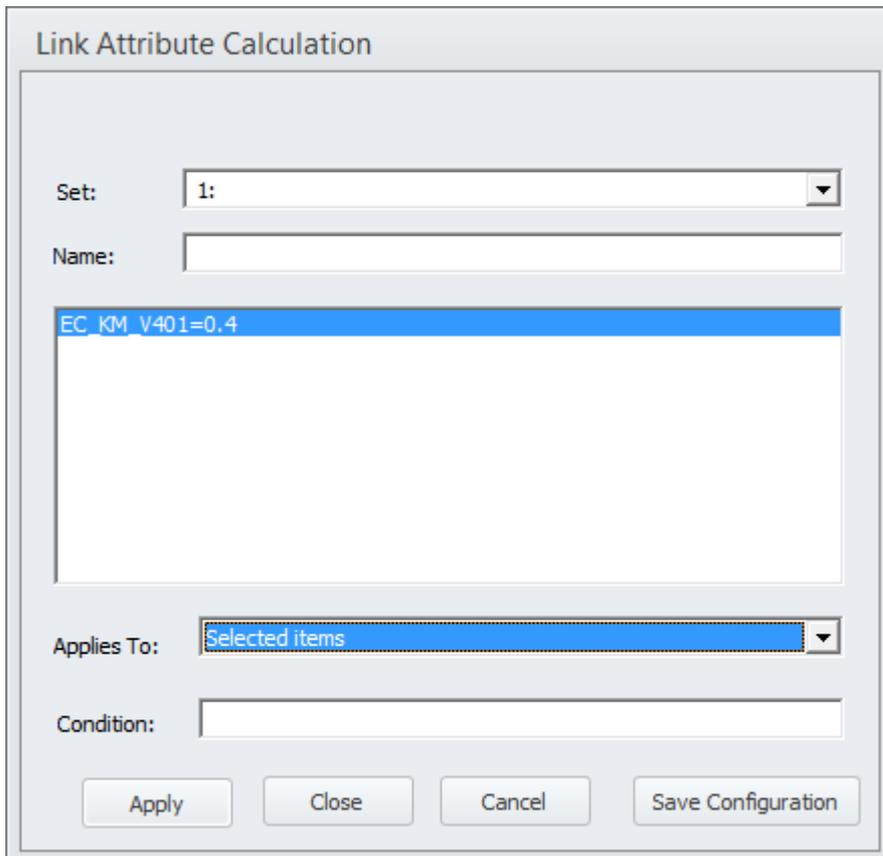

Figure 43 The Link Attribute Calculation window.
- 4) Select Link -> Compute... in the menu bar to access the Link Attribute Calculation window, see Figure 43
- 5) Fill in the fields, see Figure 43. To insert edits in the main field in the middle, right click and select "Insert". A window, "Insert Equation", pops up – right-click in the blank field and select the attribute you want to edit, e.g. EC_KM_V401 as in Figure 43, and type in "=" followed by the value. More attributes could be edited by repeating the procedure. In the "Applies To:" drop down menu, select "Selected items"